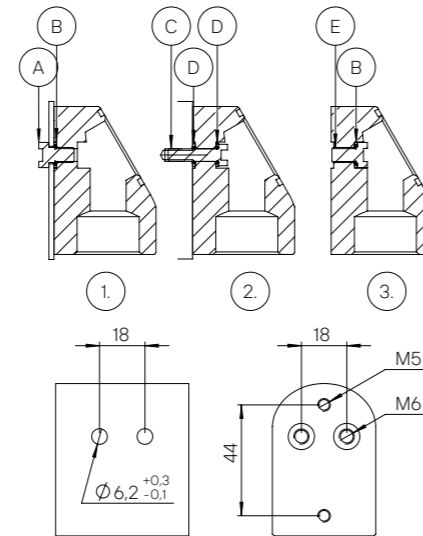

Figure 9
1. In sheet metal: Insert the M6 screws through the sheet metal from the rear (Fig. 9-A) and fit the M6 Usit ring (Fig. 9-B) over them. Use it to screw the adapter in place.
2. In solid material with M5 thread: In this case, insert the M5 × 20 screws (Fig. 9-C) with the M5 Usit ring (Fig. 9-D) fitted from the inside of the adapter and screw it to the receiving part via the prepared M5 threads.
3. M5 threads are available on the rear for other types of mounting, see Figure 9. For this purpose, seal the holes on the rear of the adapter from the inside using the M6 screw (Fig. 9-E) with the M6 Usit ring (Fig. 9-B) attached, as described in 1, making sure that they are airtight.